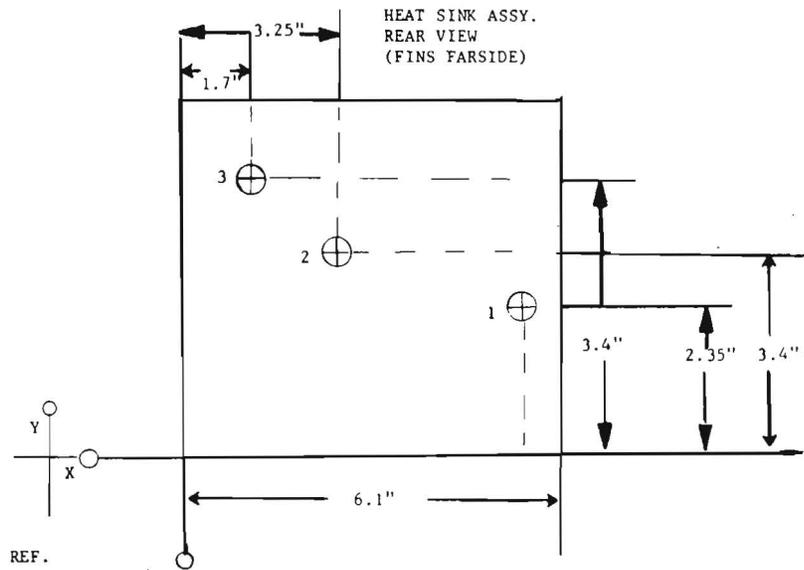

FIGURE 2
5. On heat sink assembly equipped with the crowbar kit, drill 3 holes as shown in Figure 2. Use a drill size 43 for holes 1 & 2 and drill size 31, .1200 Dia. for hole 3.
8. Mount the bracket back on heat sink assembly and install the fuse holder, Part Number 130-054 using a screw, Part Number 473-327 in hole designated Number 1. Mount the holder in parallel with (Y), reference axis - (refer to Figure 2).
9. Mount the second fuse holder in position designated by hole 2, using a screw, Part Number 473-327, perpendicular to (Y), reference axis - (refer to Figure 2).
- A. Connect terminal lug (A) of fuse (1) to J2 Pin 19 and terminal (B) of fuse to Pin regulator J3 Pin 23, AA.